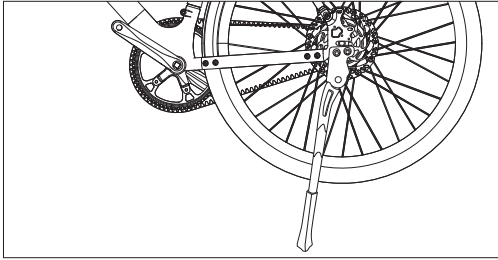

Figure 10-1
- Loosen screws and washers and then remove them from the dropout, as shown in **Figure 10-1**.